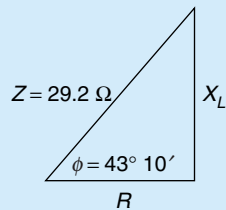

Figure 30
17. Find R and X_L in Figure 30